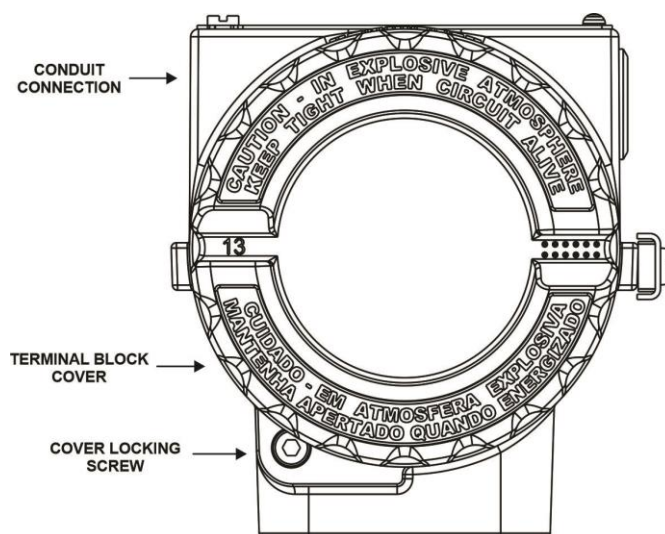

Figure 1.21 – Cover Locking Screw
1. Loose the cover locking screw and remove the terminal block cover as shown in figure 1.21.
1. Remove the terminal block cover as shown in figure 1.21.
1. Loosen the cover locking screw and remove the terminal block cover as shown in figure 1.21.
1. Loose the cover locking screw and remove the cover, as shown in figure 1.21.